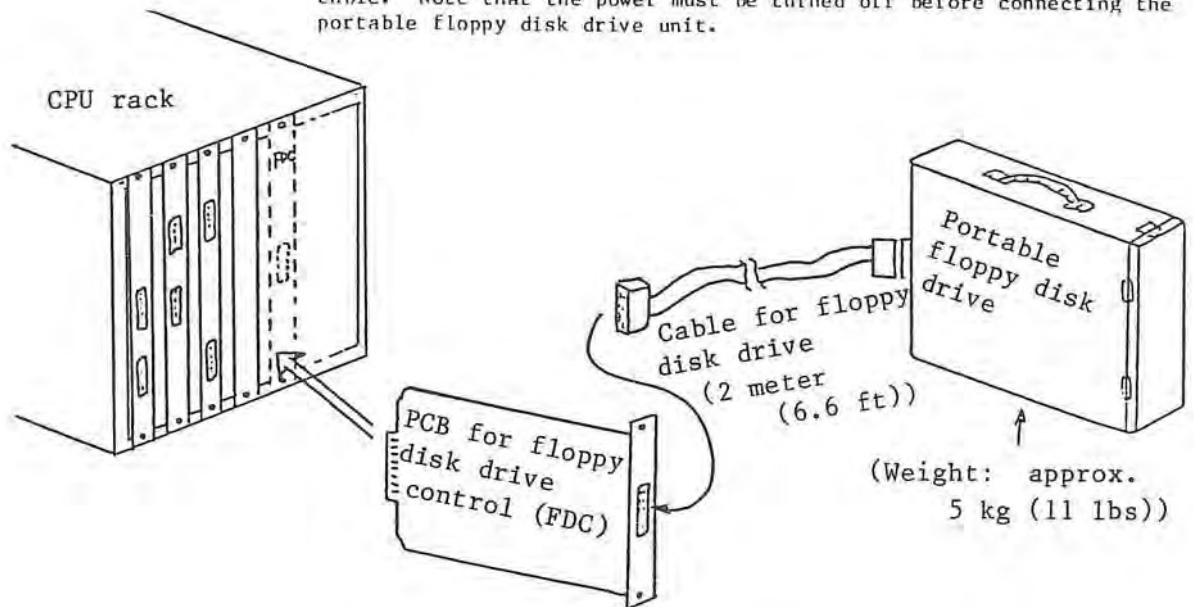

Fig. 5-17 Connection of Portable Floppy Disk Drive
- 1) Turn off power supply and connect the portable floppy disk drive to the OSP500L-G/OSP500L-G as shown in Fig. 5-17.